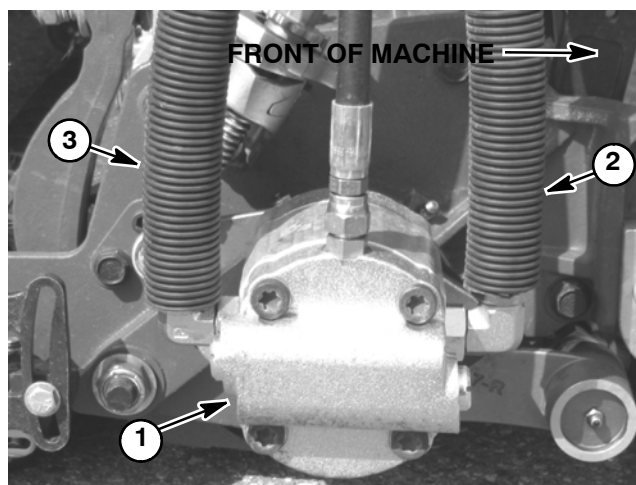

Figure 44
1. Make sure hydraulic oil is at normal operating temperature by operating the machine under load for approximately ten (10) minutes.
5. On reel motor to be tested, thoroughly clean junction of motor inlet and outlet fittings and hydraulic hoses. Loosen and remove both hoses from fittings. Install a tee fitting with a 5000 PSI (350 bar) pressure gauge between fitting and hose for both motor inlet and outlet (Fig. 44).